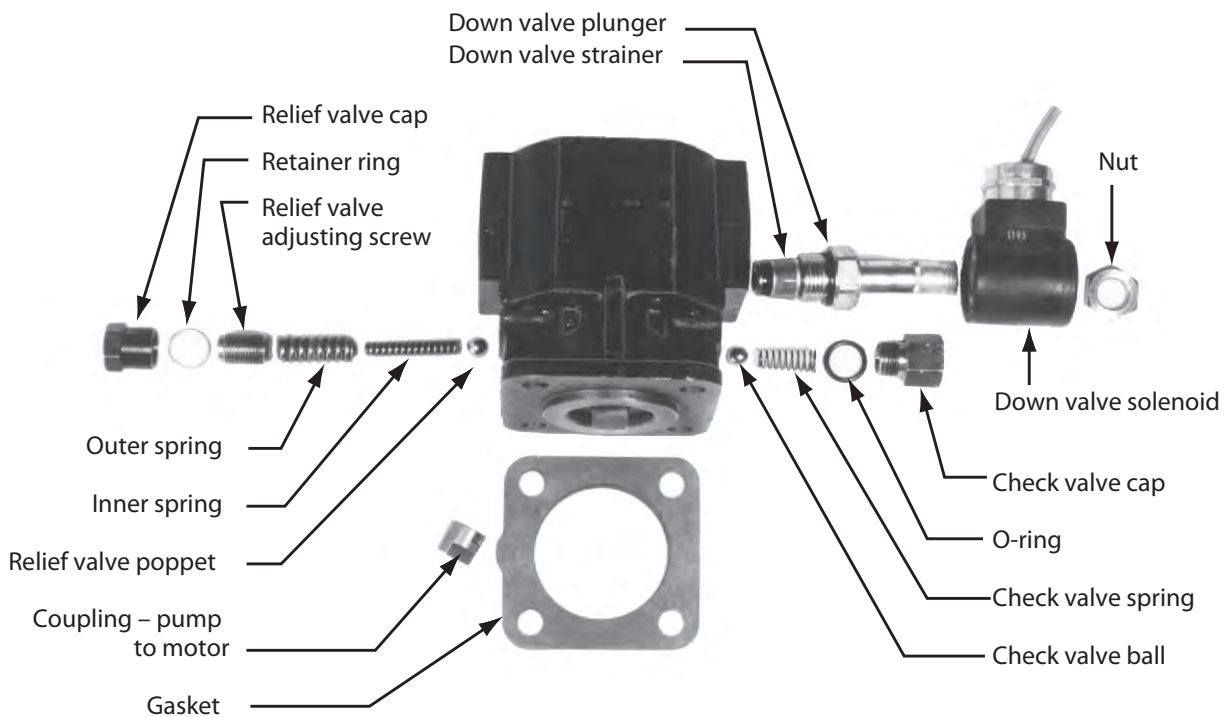

Figure 12 – Hydraulic Pump and Down Valve
If the pump has been changed, the coupling may not have been installed. See the pump assembly in Fig. 12.
2. The check valve may be leaking. Dirt on the valve seat will prevent the valve from closing fully. The check valve is mounted in the base of the pump housing, as shown in Fig. 12. Remove the check valve cap and inspect the valve for dirt or metal chips which may be preventing it from closing. You may be able to restore the seal by lightly rapping the ball into the seat using a 1/4" diameter rod and a small hammer.
2. The down valve may be de-energized. When the lift is lowering, the down valve should be energized and fully open. Check the solenoid in the valve with a volt meter. The valve must also be clean and free to operate. Remove the solenoid, then the down valve. Look for contamination which could block the valve action. Clean the valve plunger with kerosene, then blow it clean with compressed air. The strainer screen over the lower part of the plunger must be clean. See Fig. 12. Before reassembly, depress the plunger manually several times to be sure it moves freely. The expansion nut which holds the solenoid should be finger tight only!